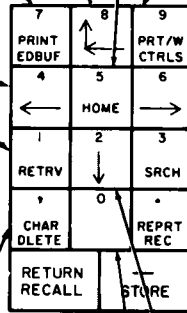

Fig. 6—Numeric/Edit Pad — Pedestal Based
2.12 The functions of the numeric/edit pad are briefly described in Fig. 6.